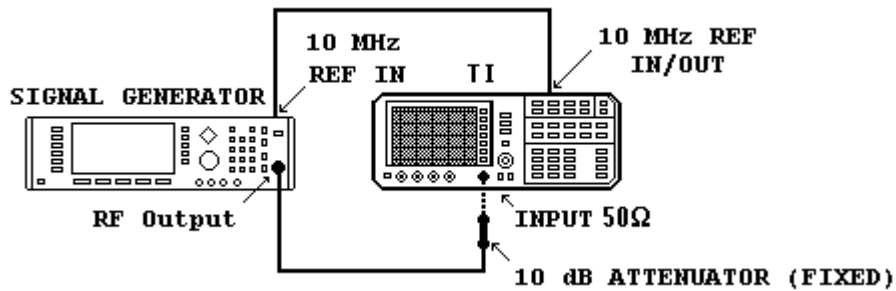

Figure 2. Input attenuator accuracy (2.9 GHz) - equipment setup.
- (25) Repeat (24) above for each remaining **IF GAIN CORRECTION** listed in table 9.
- (26) Connect equipment as shown in figure 2.